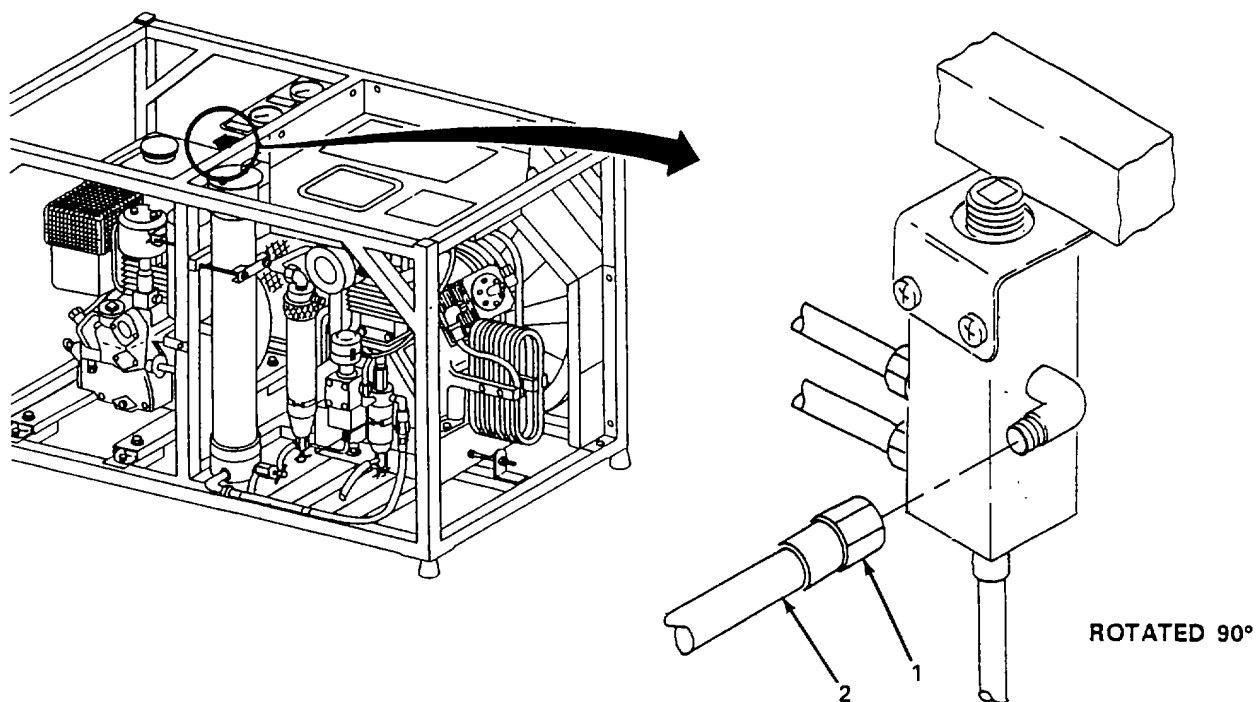

Figure 5-52. Air Tank Charging Whip Assembly, Replace.
a. Replace. (figure 5-52)**WARNING**